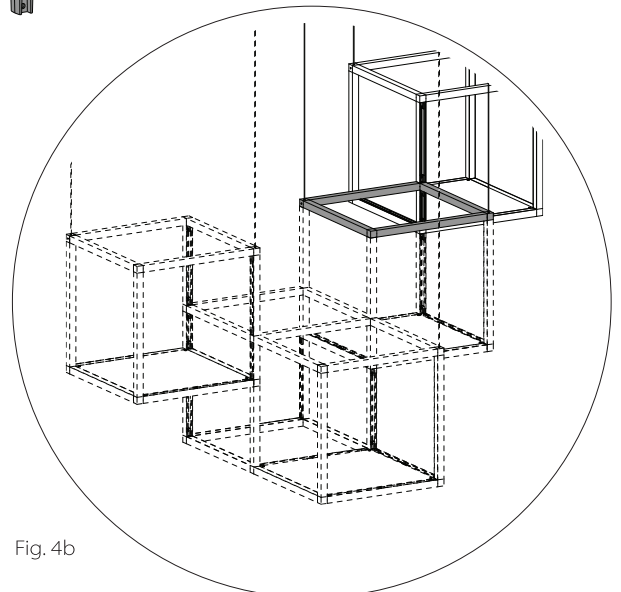

Fig. 4b
- 2d. Section as part of whole assembly shown in Fig. 4b.